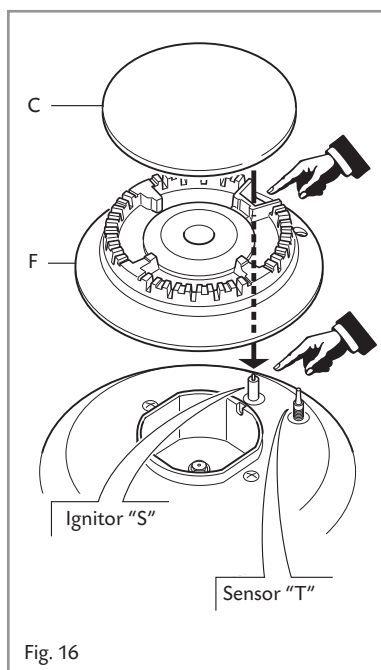

Fig. 16
- It is very important to check that the burner flame spreader "F" and the cap "C" have been correctly positioned (see figs. 16 and 17). Failure to do so can cause serious problems.